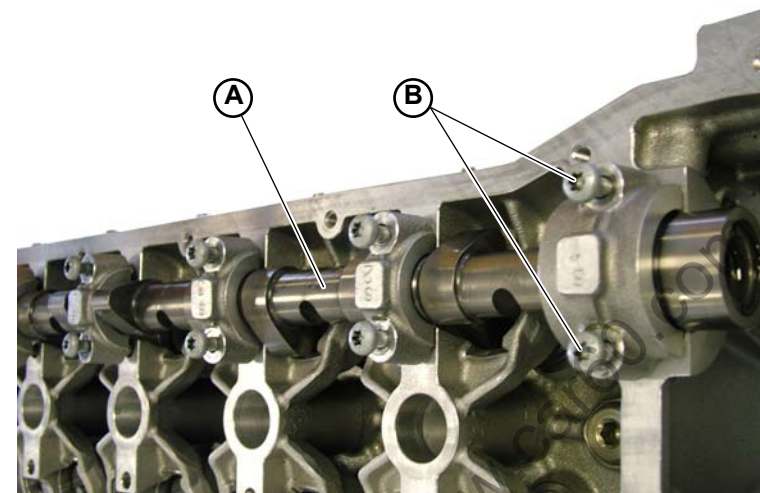

Fig.1
1. Remove the supports of the camshafts (A-Fig.1), unscrewing the relative pairs of screws (B-Fig.1).